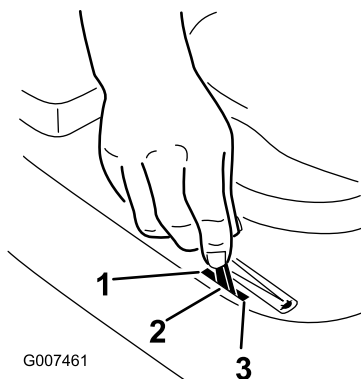

Figure 10
- Shift the throttle lever to Choke (Figure 10).
- After the engine starts, slowly shift the throttle lever to Fast (Figure 10). If the engine stalls or hesitates, shift the throttle lever back to Choke for a few seconds and then shift the throttle lever to Fast. Repeat this step as required.
- Shift the throttle lever to Slow (Figure 10).